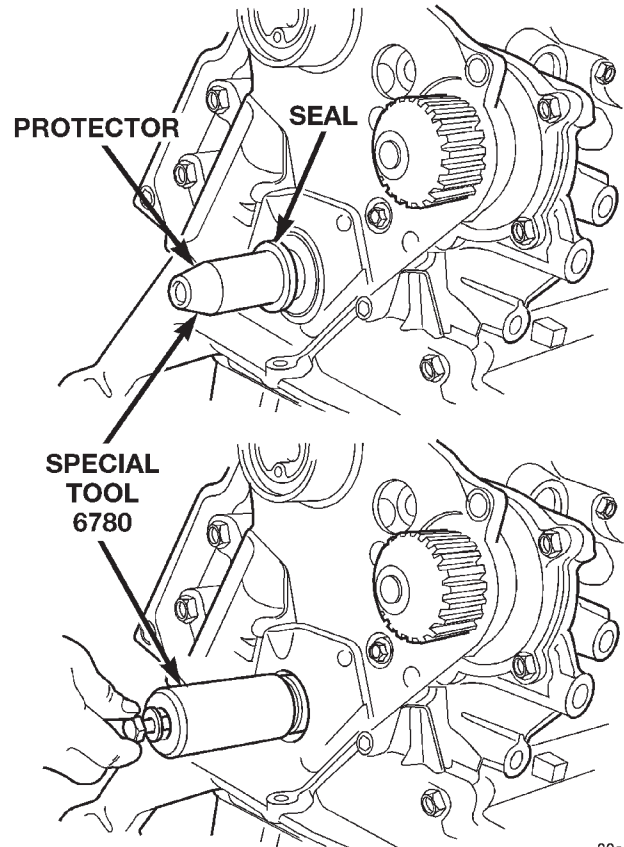

Fig. 80 Front Crankshaft Seal—Installation
(5) Install new front crankshaft seal using Special Tool 6780 (Fig. 80).